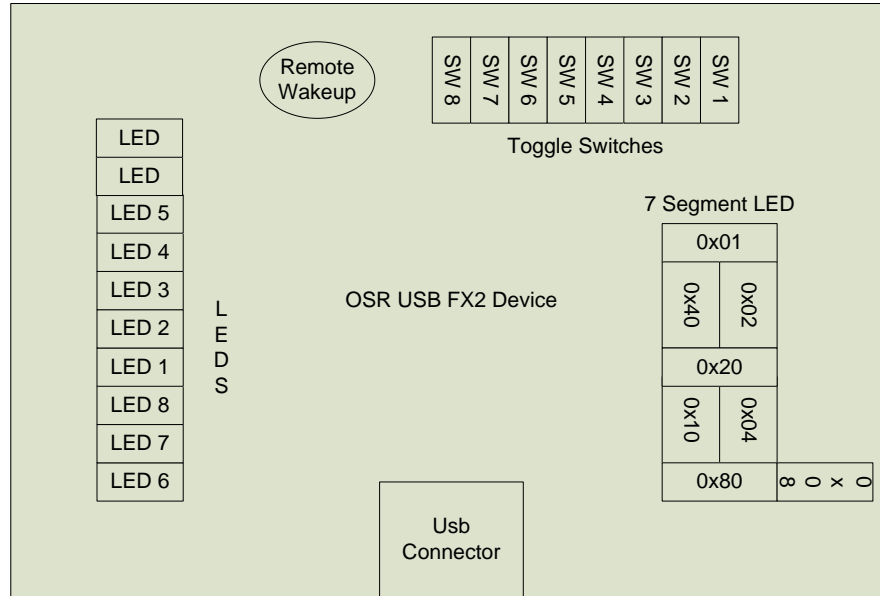

Figure 2 - OSR FX2 Device Layout
Below, Figure 2 gives a general layout of the device, its various LEDs, Switches and Segmented LEDs. The reader should note the numbering on the various LEDs, Switches and Segmented LED because the input and returned bitmasks represent their placement on the device.
- The numbering of the LEDs in the bar graph block is not intuitive. When reading the state of the LEDs a returned value of 0x08, indicates that “LED 1” is on, whereas a returned value of 0x10, indicates that “LED 2” is on. The numbering shown in Figure 2 should make this clear. In case you didn't see it mentioned above, the top to LEDs in the bar graph aren't connected to anything... so you won't be able to light them.
- The switch numbers, as addressed by the device firmware, are reversed from the number printed on the switch pack on the board. For example, a returned value of 0x01 indicates that Switch 1 is toggled, even though it is numbered “8” on the switch pack on the board. Again, the numbering shown in Figure 2 shows the actual number used by the firmware.
- For the 7-segment display, the hex values shown in Figure 2 correspond to the value to be passed to the board to light the indicated segment of the display. For example, to display a “1” in the display, you'd want to light the two right-most vertical display segments. To light these two segments, send the value 0x6, which is 0x02 (to light the top right-most vertical bar) OR'ed with 0x04 (to light the bottom right-most vertical bar). If you're wondering what the funny little block with the value 0x08 is on diagram, it's for the decimal point. So, actually, it's an 8-segment display, isn't it.